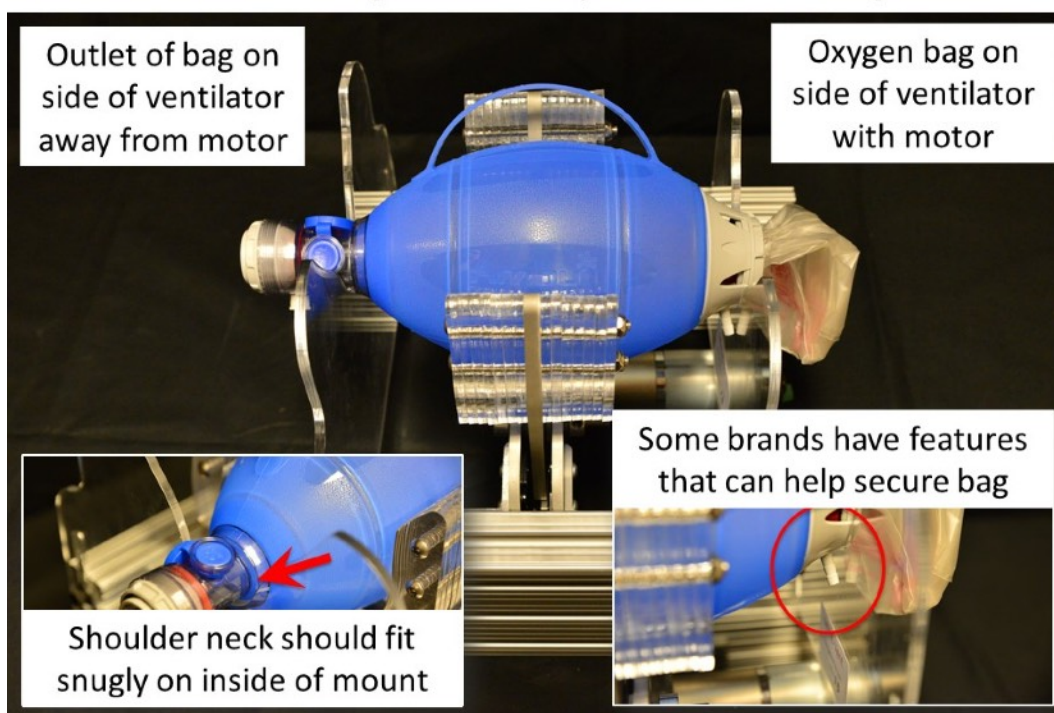

Figure 6.
2. Position the Ambu Bag in the cradle between the fingers, following the directions given in Figure 6.